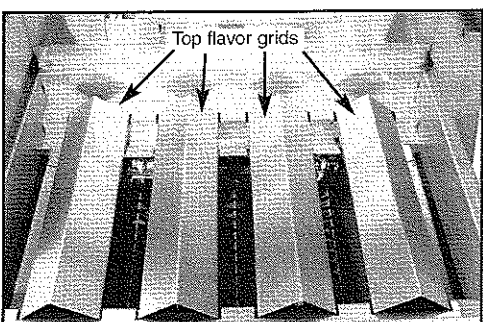

Fig. 4
2. Insert the second row of four Flavor Grids into cutouts with triangle ridges facing up. (See Fig. 4)